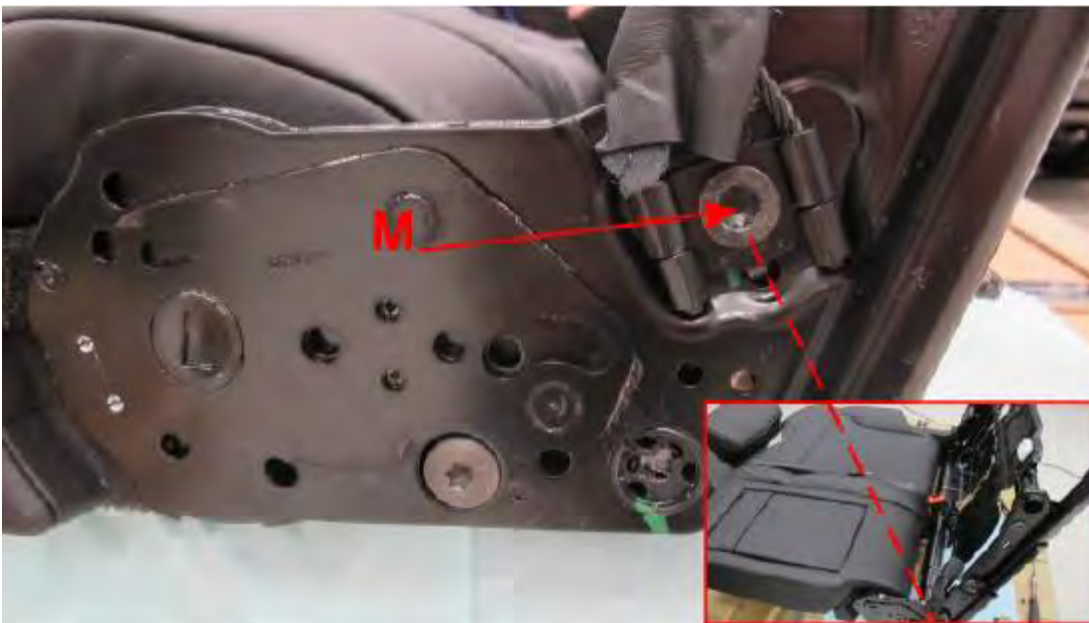

Figure 32
Rear 60% outer seat belt fastener torque 50Nm (see Figure 32)
- Remove fastener (K) securing valance
- Unlatch clip (J) at base of valance
4. Using an in date calibrated torque wrench apply 50 Nm to fasteners (M), (see Figure 32)